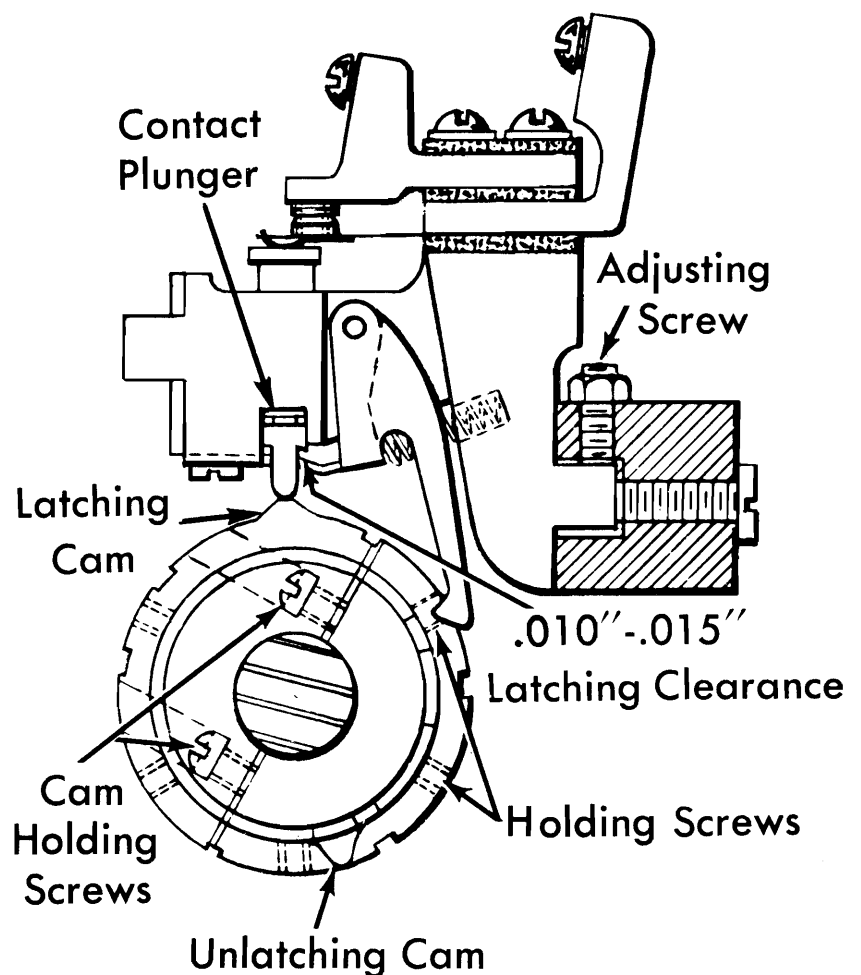

Figure 15. Latching Plunger Circuit
6. Locate the cam contact unit on the mounting bar at its extreme limit of travel away from the cam (Figure 15), and with the plunger on the highest point of the cam lobe, advance the adjusting screw until the plunger latches; then advance the screw one-half turn additional to obtain a .010" to .015" movement of the plunger beyond the latch point. This will provide clearance between the low dwell of the cam and the plunger.
8. To adjust the break time of the contact, loosen the contact unlatching cam screws (Figure 15). Turn the machine to the proper index point and move the unlatching cam in its slot until the contact opens. Tighten the holding screws. There are six possible positions for holding screws, only two of which will be used at any one time.